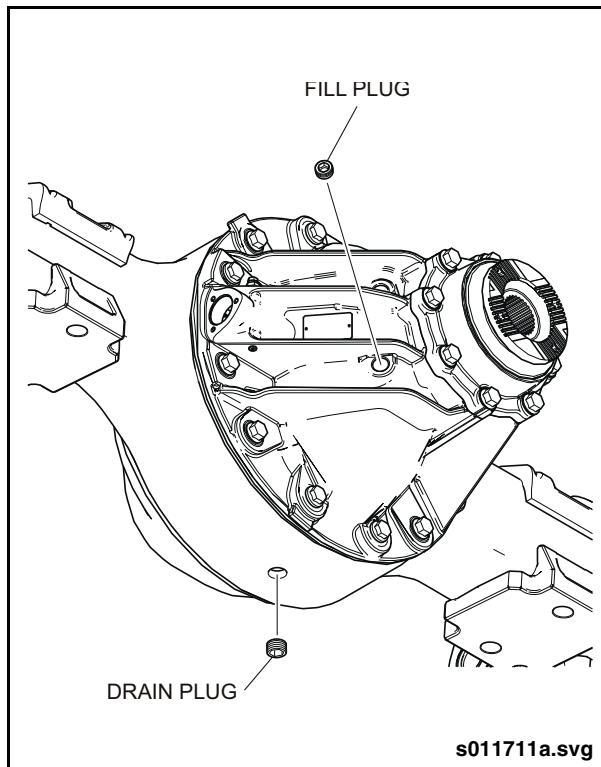

Fig. PM-34: Rear Axle Drain & Fill Locations
3. Remove the fill plug from the front of the differential housing. See "Fig. PM-34: Rear Axle Drain & Fill Locations" on page 74.